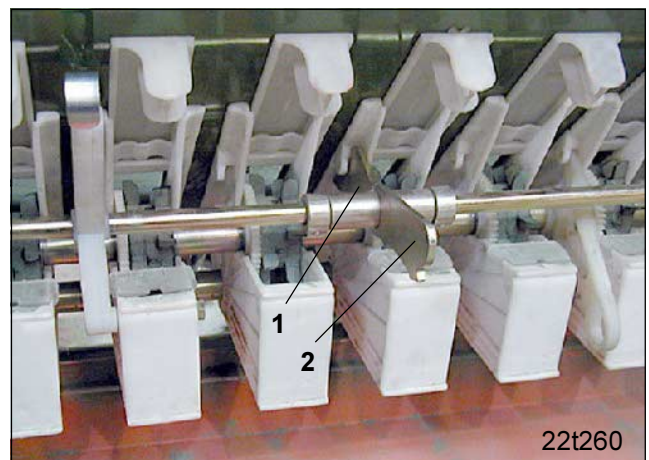

Fig. 10.25
- turn the axial securing (Fig. 10.25/1) so that the short arm rests in the gap of the seed housing.
If the seed drill is reset to normal seed metering wheels reverse the axial securing and insert the long arm (Fig. 10.25/23) into the gap of the seed metering housing.